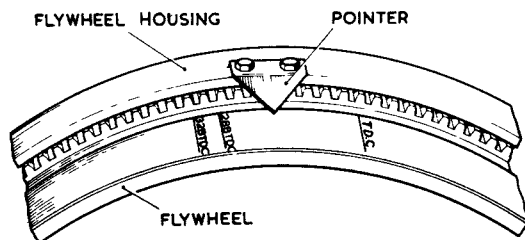

Fig.16 Flywheel timing marks.
- (1) With No. 1 piston on compression stroke, turn the engine forward until the appropriate firing mark on the flywheel (fig.16) coincides with the timing pointer or mark on the flywheel housing; check that both valves are closed.